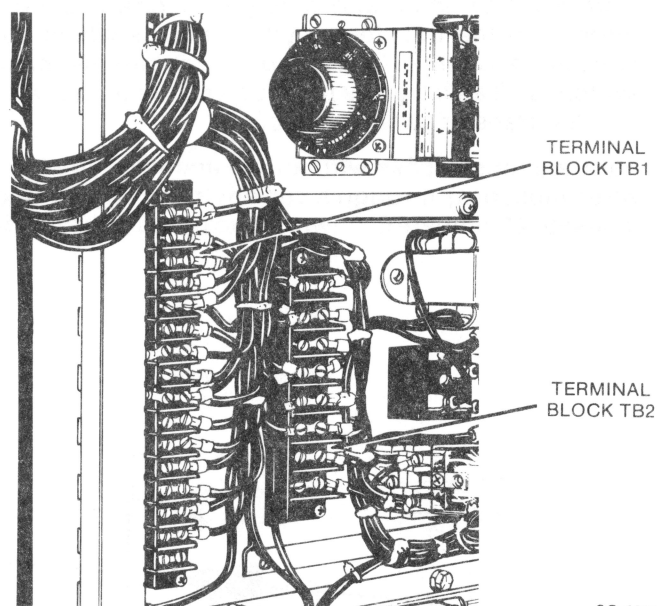

FIGURE 5. CONTROL TERMINAL BLOCKS
**Source 1 Power Failure Signal:** A power failure of the source 1 (Normal) line closes a set of relay contacts. These can be used for a signal circuit external to the transfer switch. Make connection to terminals TB1-6 and TB1-7. See Figure 5.